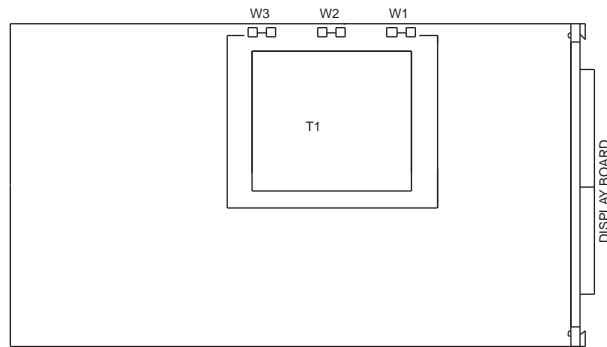

Figure 3-1. Main Board Power Jumpers (W1, W2, W3).
2. Locate the solder jumpers W1, W2, and W3 (located near the edge of the main board alongside the transformer - refer to Figures 3-1).
Figure 3-1 shows the location of solder jumpers W1 through W3.